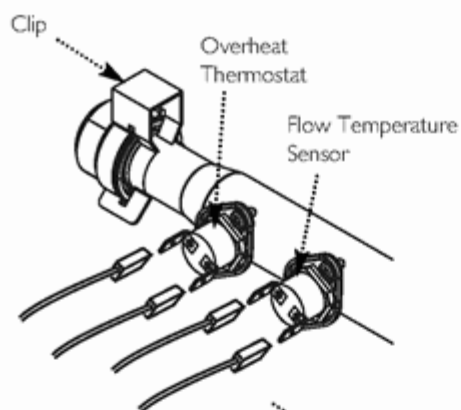

Fig. 63
14.11 Central Heating Flow & Return Temperature Sensors (Figs. 63 & 64)
14.12 Overheat Thermostat (Fig. 63)
- a) Disconnect the four wires on the temperature sensors (Fig. 63).
- b) Remove the three pipe clips. One near the heat exchanger and two on the body flow sensor (Figs. 63 & 65).